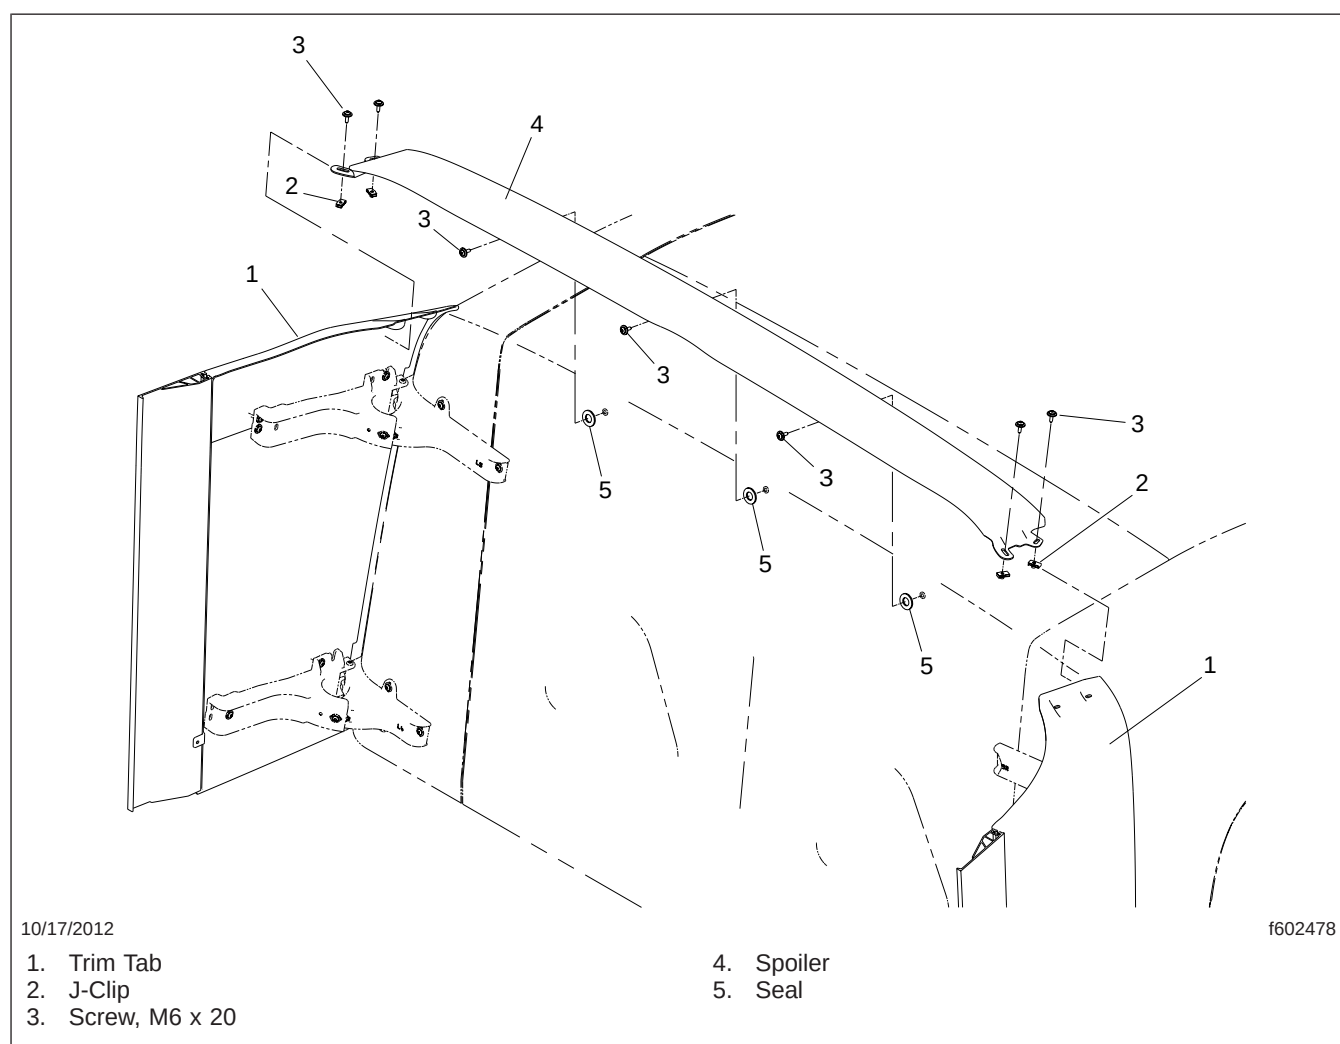

Fig. 1, Spoiler Installation
1. Using three M6 x 20 screws, attach the spoiler to the cab. Tighten the screws 80 lbf·in (920 N·cm). See Fig. 1.